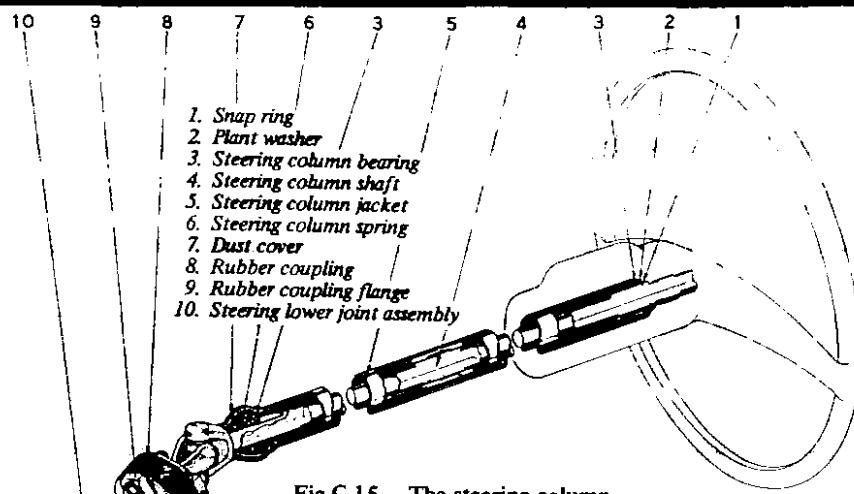

Fig.C.15 The steering column
3. Remove the bolts from the steering column rubber coupling (See Fig.C.15), and remove the splash board (Fig.C.17).